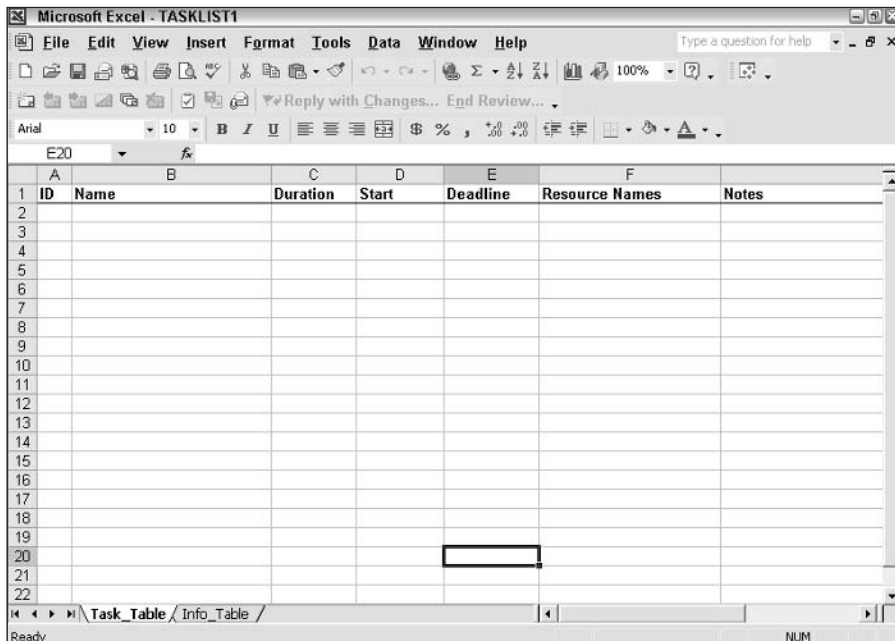

Figure 26-22: An Excel workbook that's based on the Microsoft Project Task List Import Template.
4. Choose Microsoft Project Task List Import Template. The workbook that you see looks like the one shown in Figure 26-22.